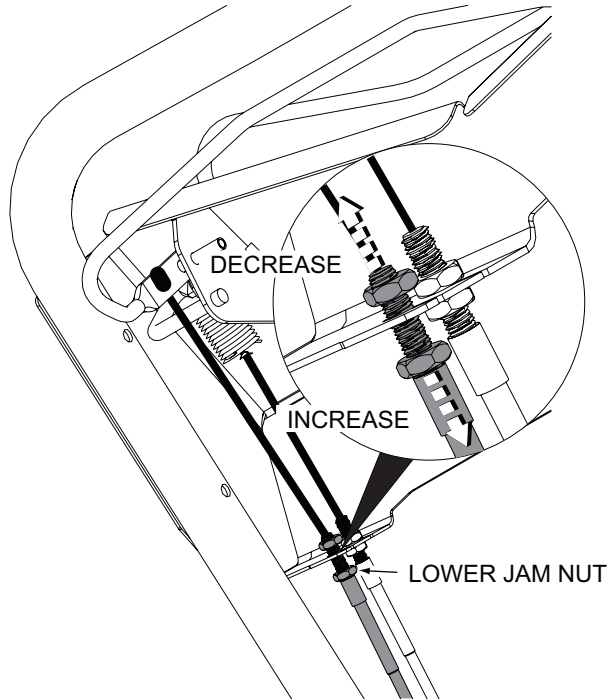

Figure 6-8. Self-Propel Drive Cable Adjustment
8. Adjust the cable by moving the threaded shaft in the hole in the handle bar bracket, down to increase tension and up to decrease tension on the cable. See Figure 6-8.
11. While holding the cable in place, turn the lower jam nut until it is tight against the handle bar bracket. See Figure 6-8.